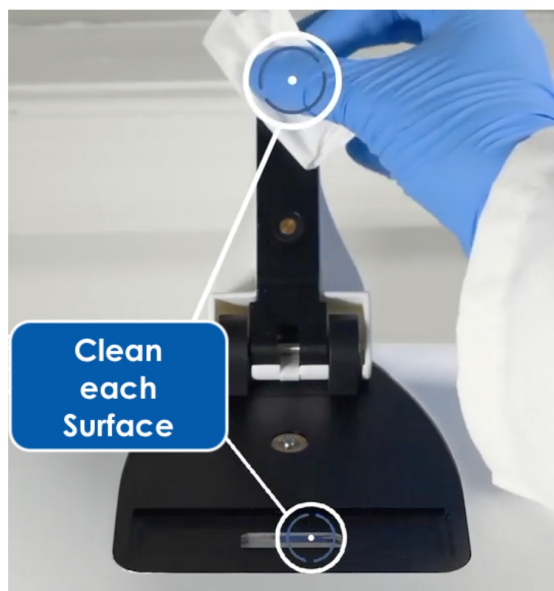

Figure 5: Clean top and bottom chamber surfaces. Use a folded lab wipe to firmly wipe each surface once in a single direction.
7. With a folded lab wipe, wipe each surface in one direction using a single, firm stroke (Figure 5).